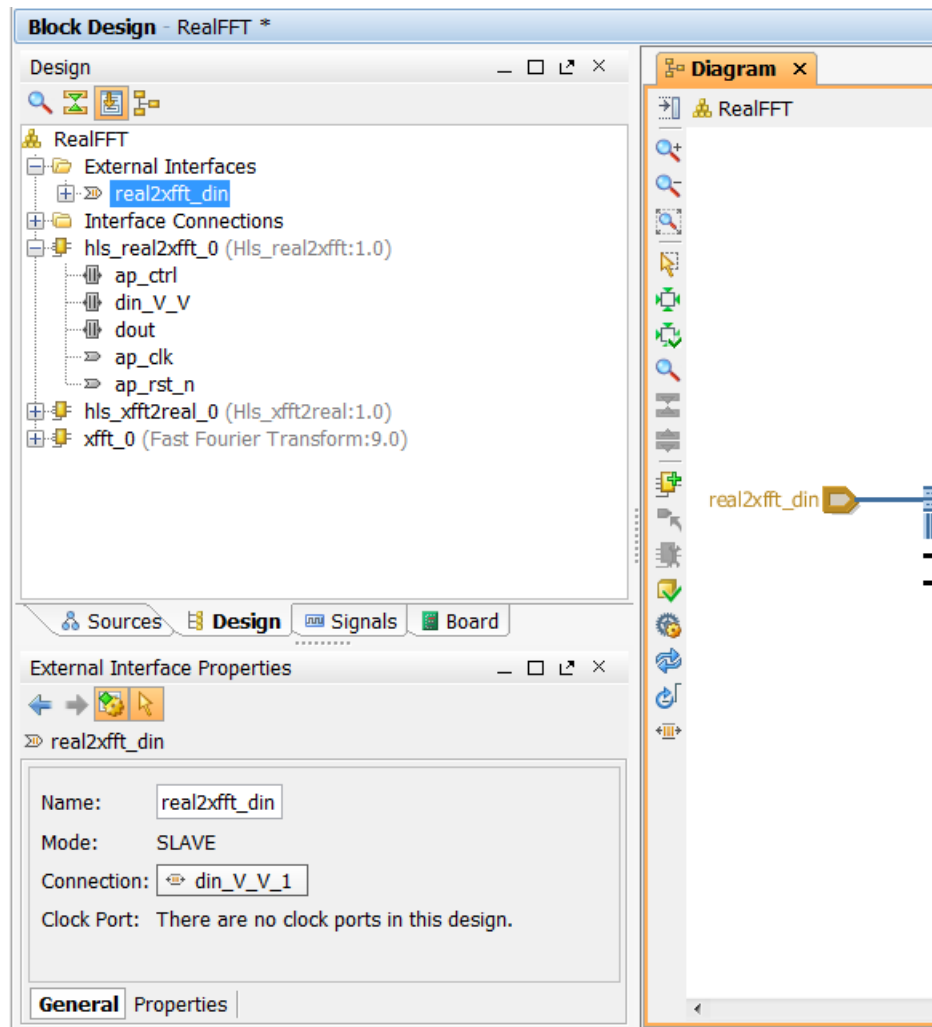

Figure 9-19: Port Naming
- b. In the External Interface Properties pane (Figure 9-19), click in the Name text entry box to highlight `din_v_v`.